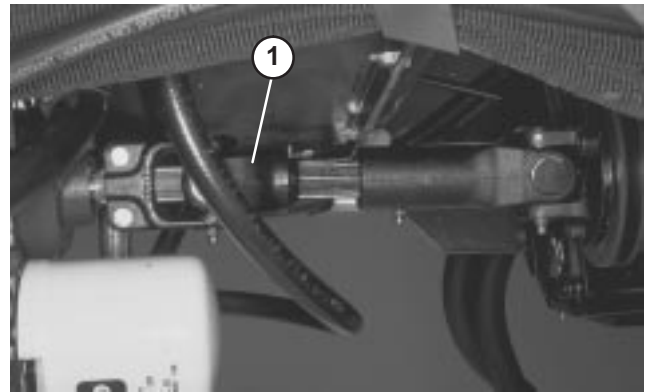

Figure 34
1. Loosen and remove capscrews securing the drive shaft to the engine drive coupler. Loosen capscrews clamping drive shaft to transmission (Fig. 34). Remove drive shaft.
5. When towing is completed, reinstall driveshaft as shown in Figure 34. The splines are designed to allow assembly only when the two halves of the shaft are properly oriented.